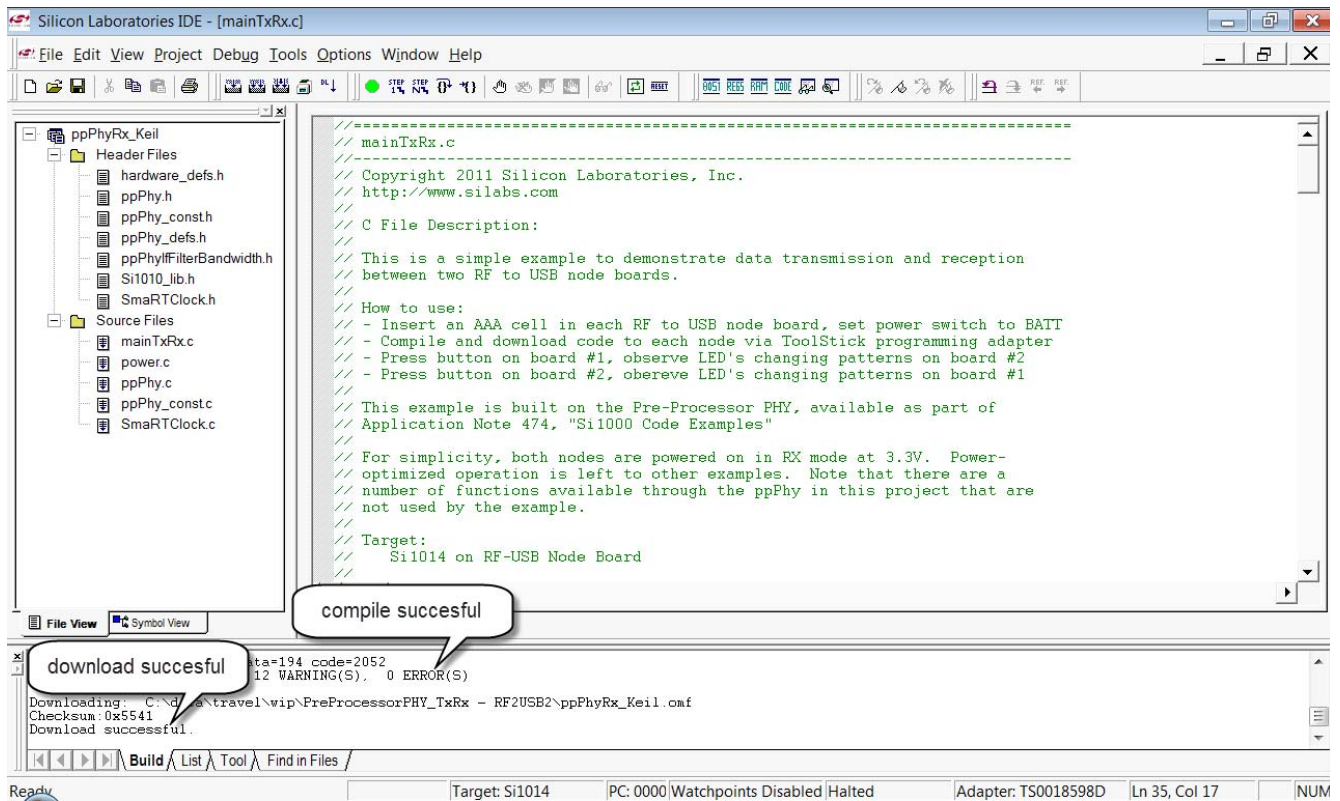

Figure 15. Verify Successful Build and Download
6. Verify successful build and download as shown in Figure 15.